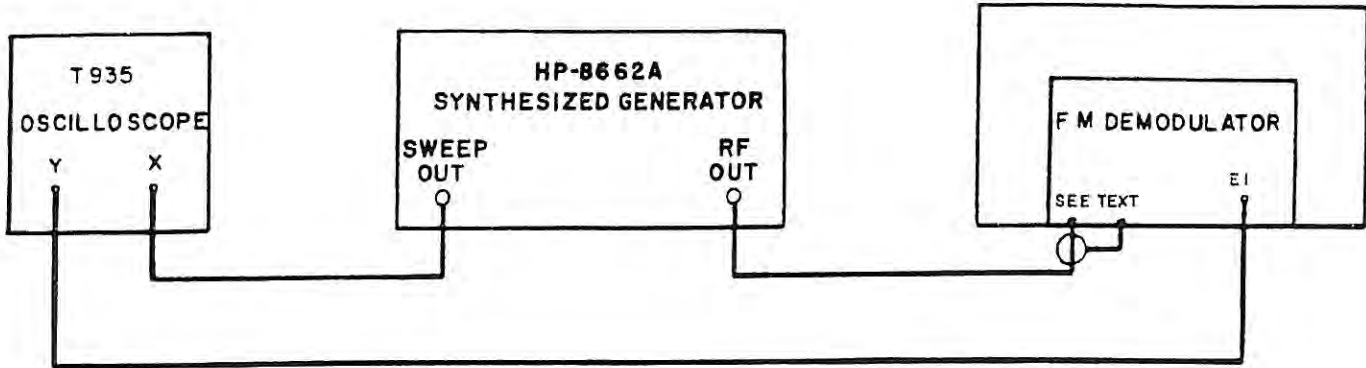

Figure S-4. FM Demodulator Alignment, Equipment Connections
2. Connect the test equipment as illustrated in Figure S-4, with the sweep generator RF output connected between pin 1 (signal) and pin 2 (shield) of connector XA16. Connect the sweep generator demodulator input at terminal E1 of the FM Demodulator under test.
2. Connect the test equipment as illustrated in **Figure S-4**, with the sweep generator RF output connected between pin 1 (signal) and pin 2 (shield) of connector XA16. Connect the sweep generator demodulator input at connector pin 1 of J1 on the Switchable FM Demodulator under test.